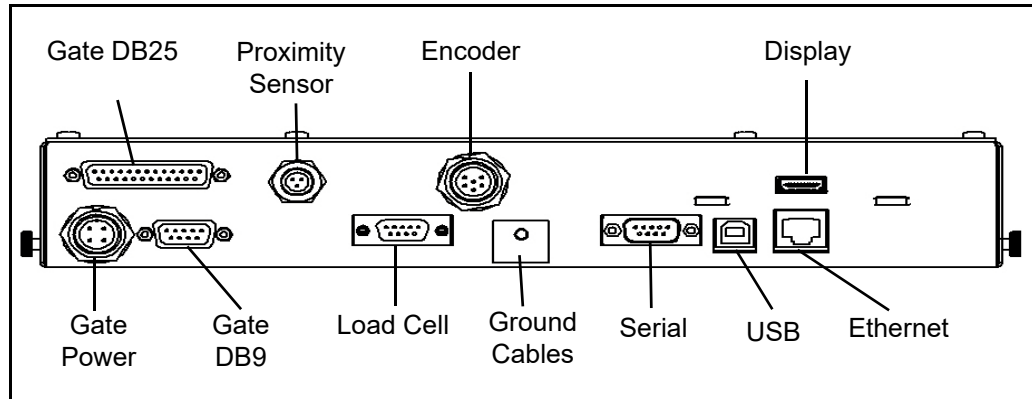

Figure 48
6. Disconnect all connectors that are attached to the controller box (refer to Figure 48 as needed), as follows: